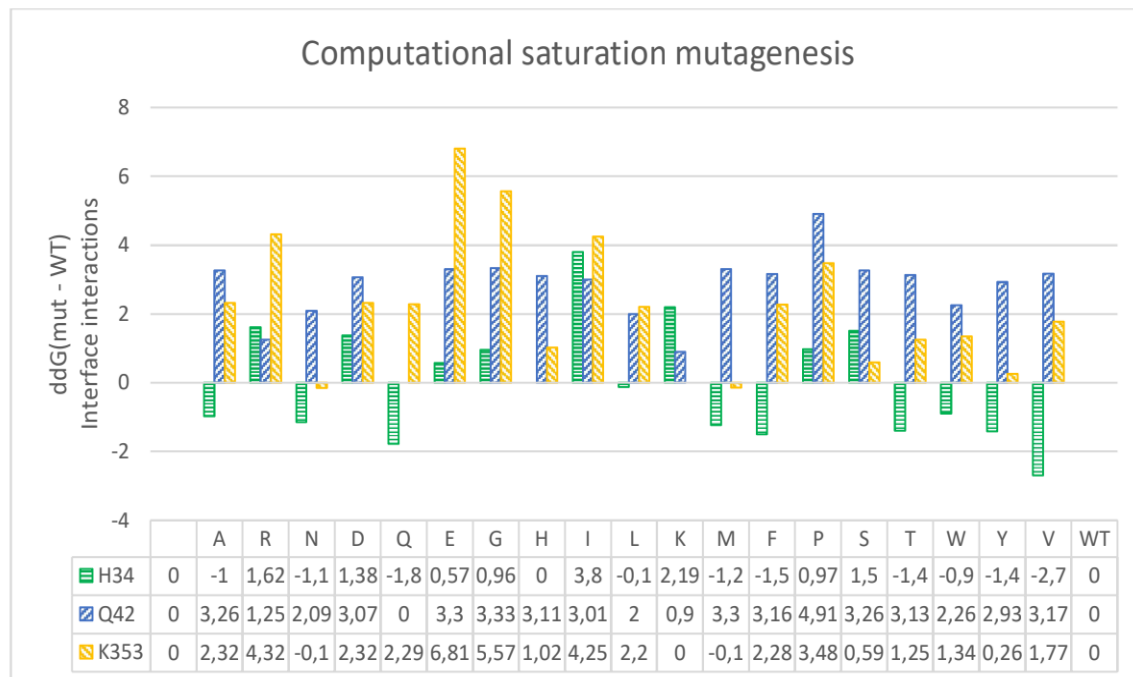

Figure 2: computational saturation mutagenesis of the three residues that were selected from the alanine scan
- Pick two disruptive mutations from the table above (Fig. 2) and explain their destabilizing effect based on the binding interface shown in Fig. 3.